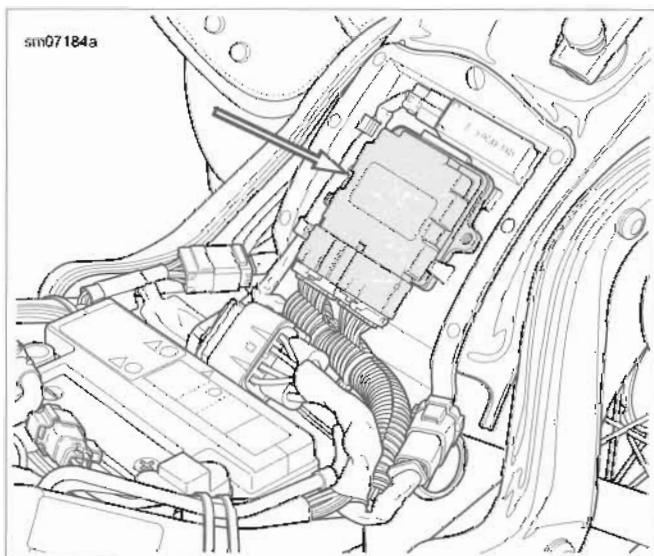

Figure 7-6. ECM Location
3. See Figure 7-6. Pull ECM from mount.
1. Figure 7-6. Attach connectors [78-1, 78-2] to ECM.